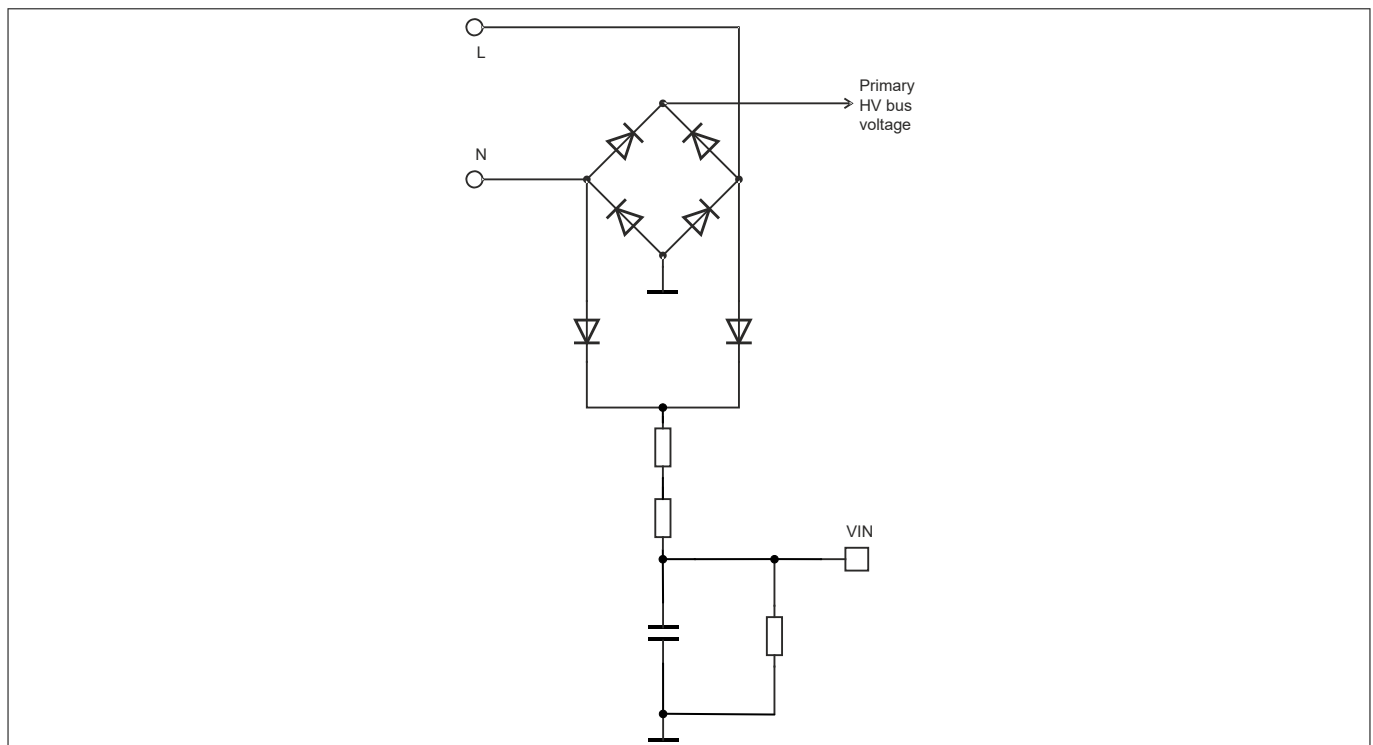
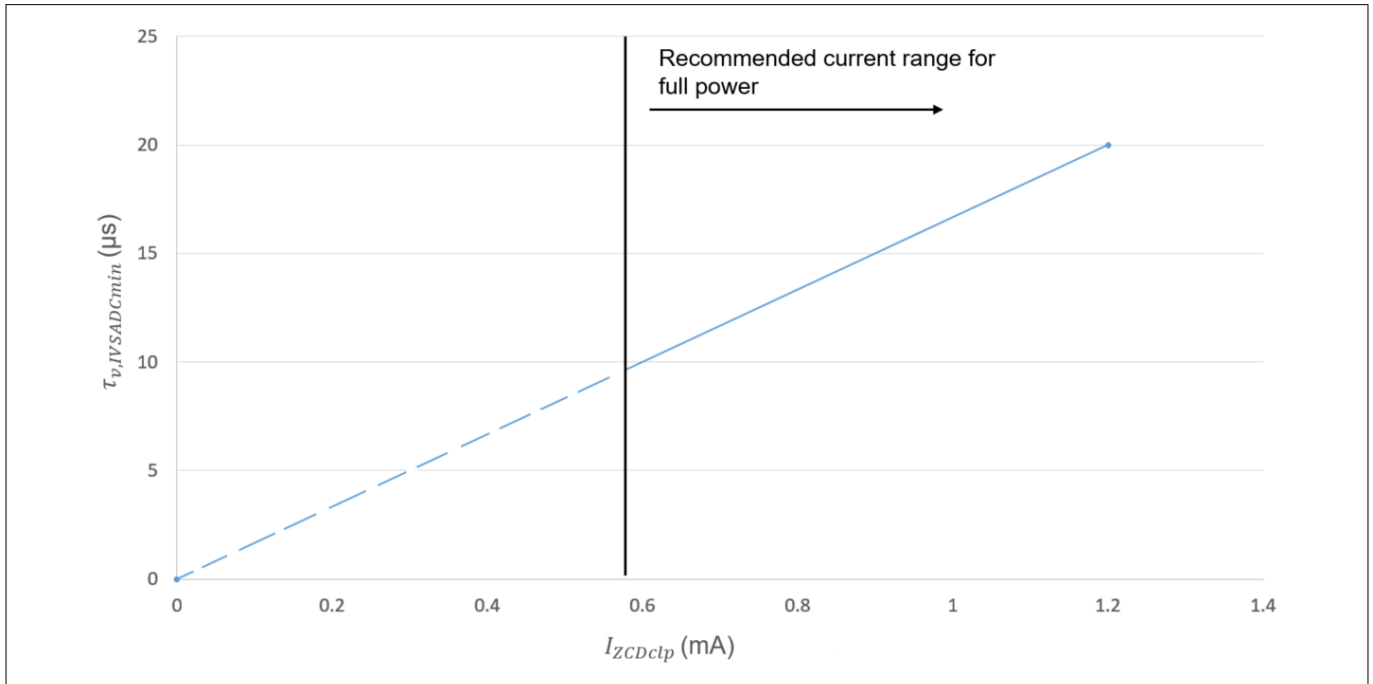
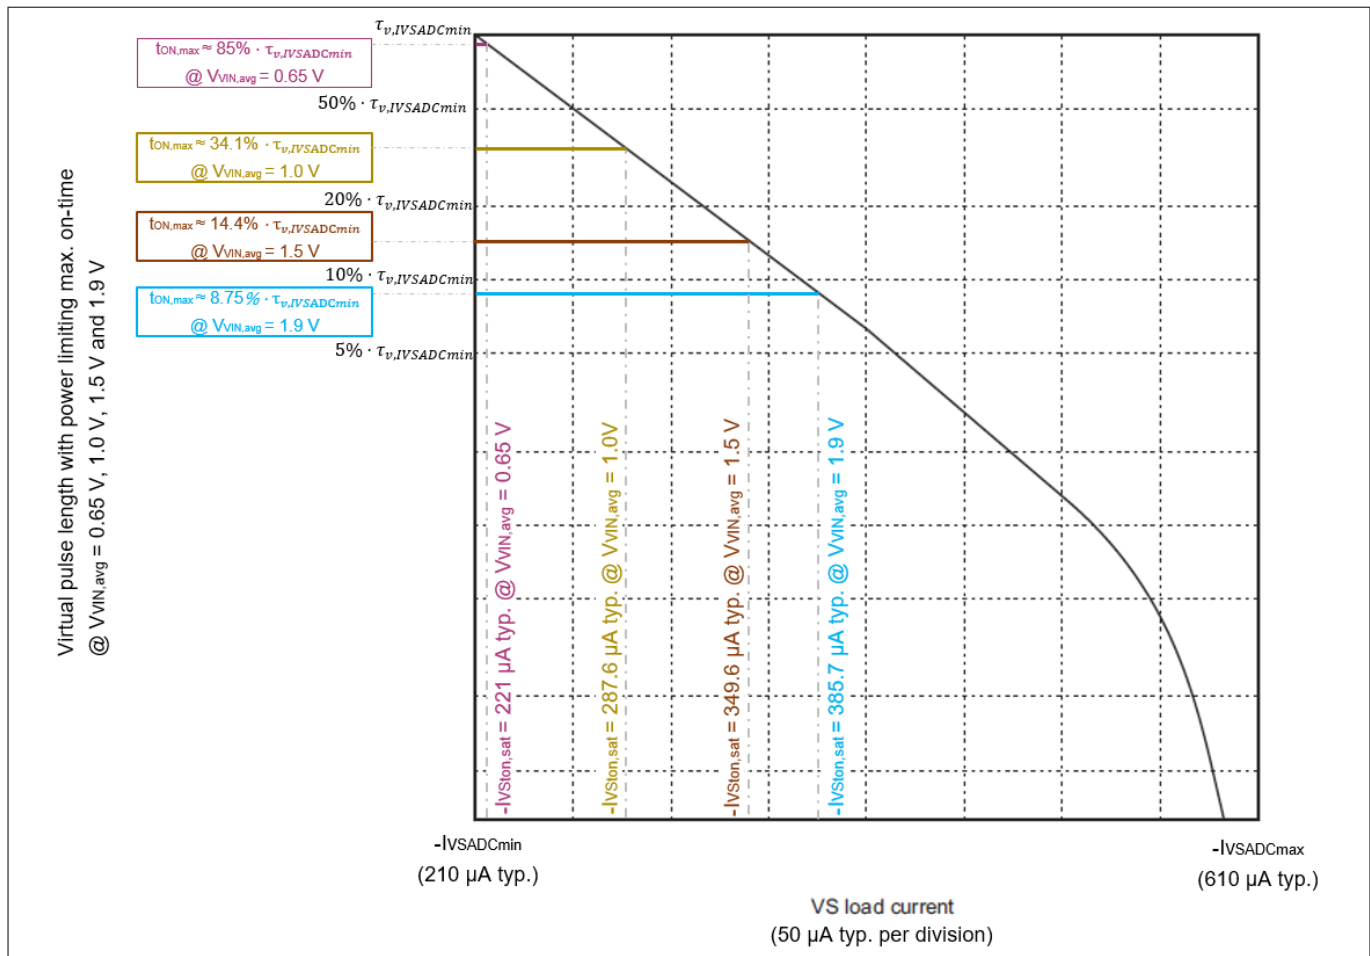

Figure 6 V_{IN} pin circuit
Figure 14 Virtual pulse length at $I_{VSADCmin}$, $\tau_{v,IVSADCmin}$ versus ZCD peak to peak settled clamping current, I_{ZCDclp}
Figure 15 Virtual pulse length mapping with power limiting maximum on-time effect
1. Based on $I_{ZCDclp} = 1.2$ mA, obtain $\tau_{v,IVSADCmin} = 20$ μ s from Figure 14.
For $t_{ON,max}$ estimation, it is important to note that $\tau_{v,IVSADCmin}$ changes with different $V_{VIN,avg}$ level, when the input voltage detection circuit in Figure 6 is applied. This is because $\tau_{v,IVSADCmin}$ is scaled depending on I_{ZCDclp} in Figure 14, while I_{ZCDclp} is dependent on the input voltage, as explained in ZCD pin signal sensing.
Figure 15 shows the virtual pulse length with the power limiting maximum on-time effect, when $V_{VIN,avg}$ is 0.65 V, 1.0 V, 1.5 V and 1.9 V, respectively.
When $V_{IN,avg}$ is at the brownin level ($V_{BI} = 0.65\text{ V typ.}$), the power limitation is enabled with $t_{ON,max} = 85\%$ of $\tau_{v,IVSADCmin}$, as shown in Figure 15. For example, if the desired $t_{ON,max}$ at brownin level is 17 $\mu\text{s typ.}$, it is necessary to have $\tau_{v,IVSADCmin} = 17\text{ }\mu\text{s} / 85\% = 20\text{ }\mu\text{s}$. And, according to Figure 14, $\tau_{v,IVSADCmin} = 20\text{ }\mu\text{s}$ is obtained when $I_{ZCDclp} = 1.2\text{ mA}$ is applied. As a result, to achieve $t_{ON,max} = 17\text{ }\mu\text{s typ.}$ at brownin level, R_{ZCD} should be dimensioned to produce $I_{ZCDclp} = 1.2\text{ mA typ.}$ at brownin level.